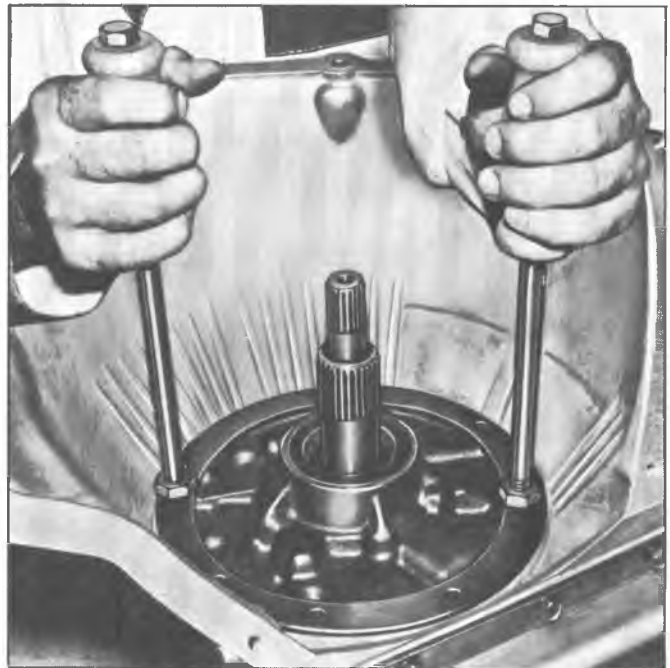

Fig. 6PG-Removing Oil Pump
10. Remove the oil pump and stator shaft assembly and the selective fit thrust washer using adapter J-9539 and the slide weights from Tool J-6125 (fig. 6PG). Note the two threaded holes to mount the pullers. Remove the ring seal and gasket.